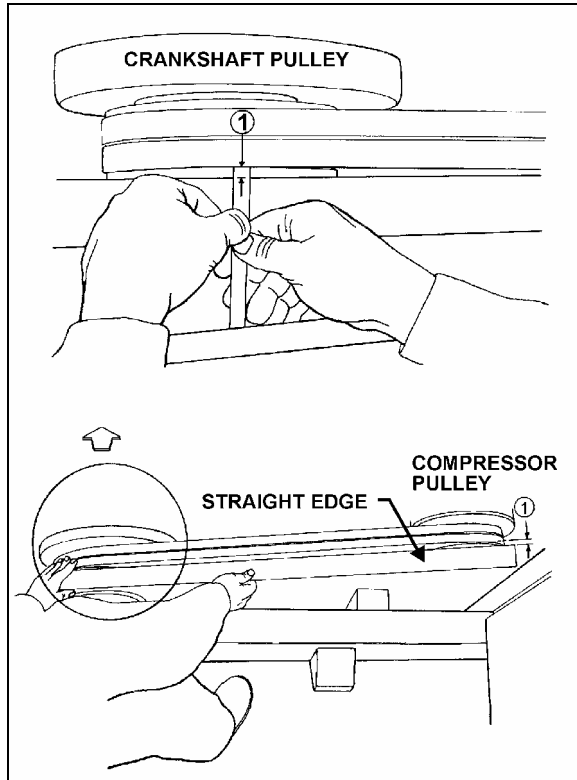
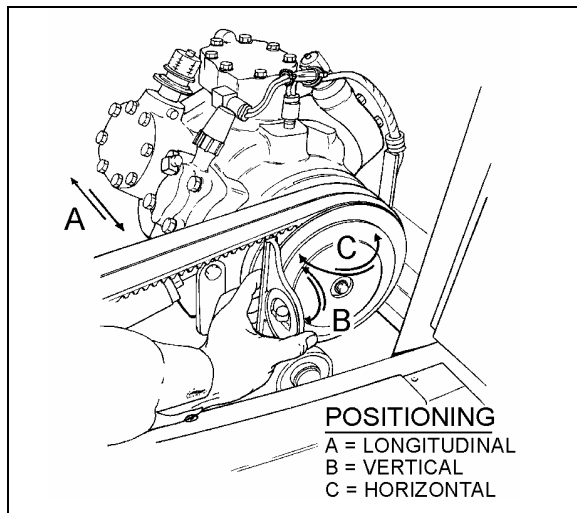

FIGURE 22: COMPRESSOR ALIGNMENT
FIGURE 23: COMPRESSOR ALIGNMENT
After belt replacement or during normal maintenance, belt play between pulleys and belt must be checked to ensure proper operation. Refer to Figure 22 for proper plays.
compressor clutch pulley (Figure 22 & Figure 23).
2. Check the distance between each extremity of straight edge (1, Figure 22) and the first drive belt. If they are different, loosen the compressor support bolts and with a hammer, knock support to slide it in order to obtain the same distance; then tighten bolts.
2. Check the distance between each extremity of straight edge (1, Figure 22) and drive belt. If they are different, loosen the pillow block compressor bolts and with a hammer, knock compressor pillow block to slide it, in order to obtain the same distance; then tighten bolts.
Rest a short "angle and level indicator" on the outer side face of the crankshaft pulley, adjust the level indicator inclination at 0° and check if the compressor pulley is at same angle (Figure 22 & Figure 23). If it is not the same, shim under the appropriate pillow block in order to obtain the correct angle.